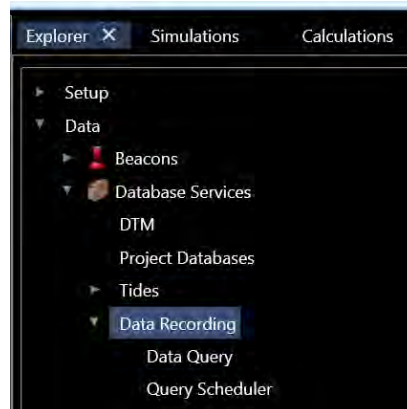

FIGURE 14-7 DATA RECORDING - EXPLORER
1. Open the Explorer window and navigate the tree to select **Data Recording** (see Figure 14-7)